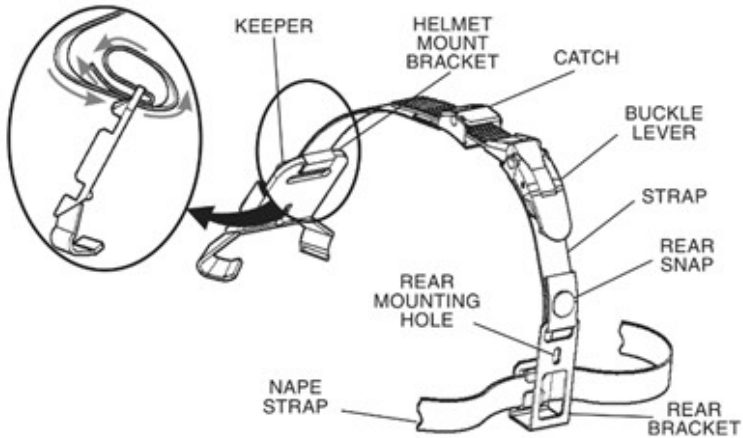

FIGURE 2.10. INSTALLATION OF HELMET MOUNT
(1) Remove the helmet mount from the carrying case. Refer to Figure 2.10. for helmet mount features.